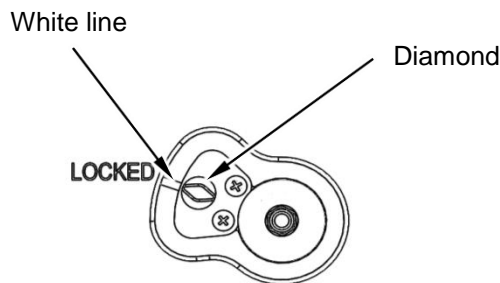

Figure 5.1 Hook Lock Indicator
3. Verify that the hook is locked in the closed position by checking the hook lock indication on the side of the Cargo Hook. The diamond shaped feature (visible through the opening in the Side Plate) must be aligned with the line on the Side Plate (see Figure 5.1).